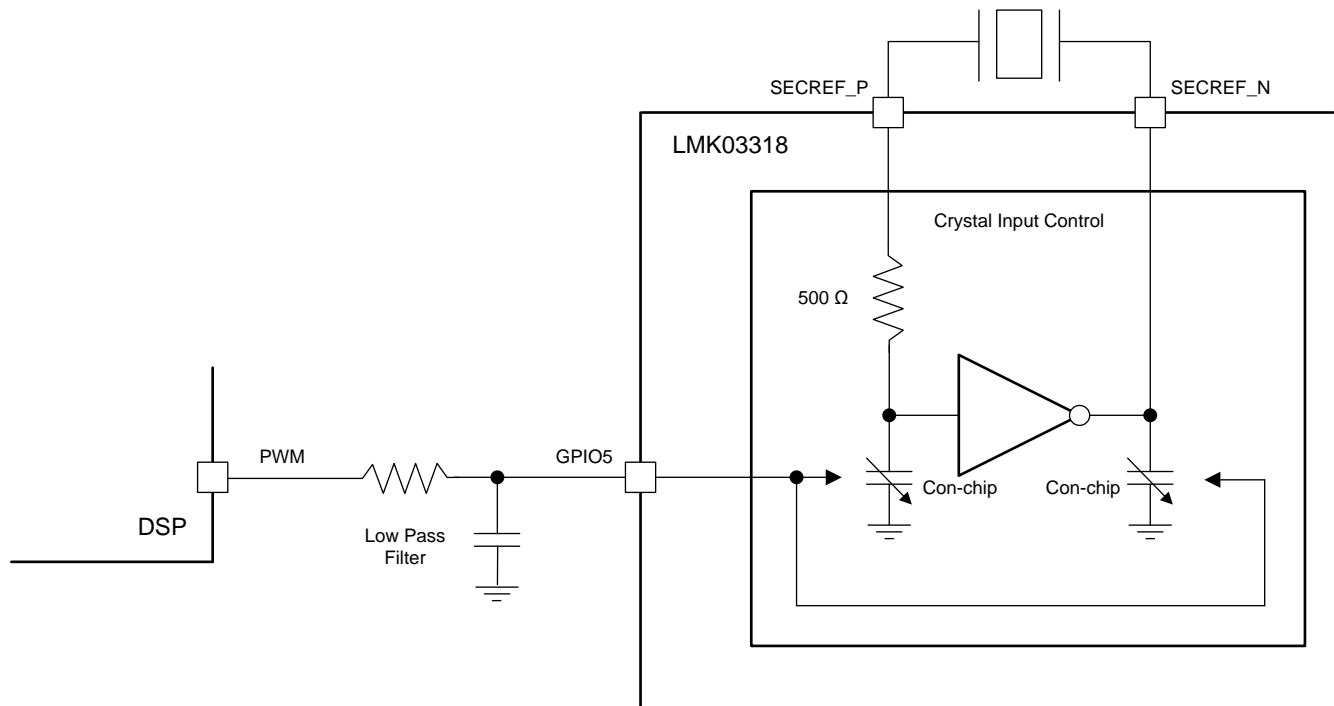

Figure 57. Crystal Load Capacitance Compensation Using PWM Signal
- The second method is using a low-pass filtered PWM signal to drive the 8-level GPIO5 pin as shown in Figure 57. The PWM signal could be generated from the frequency difference between a highly stable TCXO and the output of LMK03318 that is provided as a feedback into the GPIO5 pin and used to adjust the on-chip load capacitance on the crystal input to reduce frequency errors from the crystal. This is a quick alternative that produces a frequency error at the LMK03318's output and could be acceptable to any application when compared to a full-characterization with a chosen crystal to understand the exact load pulling required to minimize frequency error at the LMK03318's output. More details on frequency margining are provided in Application and Implementation.